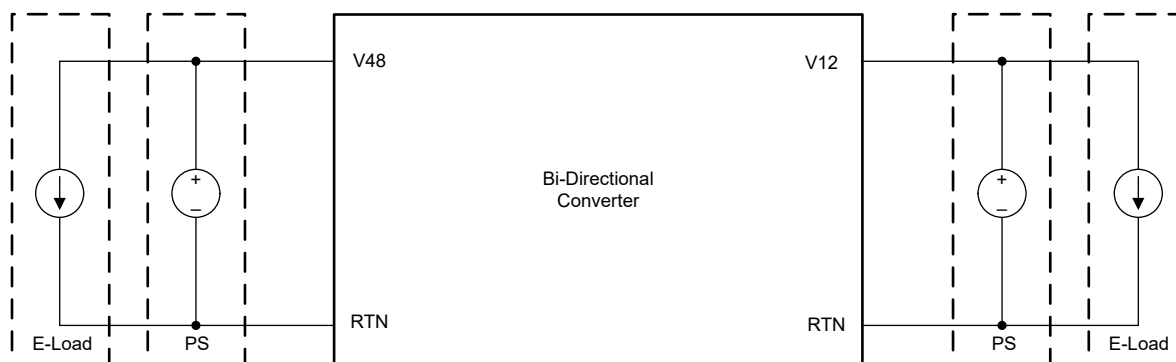

Figure 7-32. Emulated Dual Battery System With Bench Power Supplies and E-Loads
The LM5171-Q1-based converter is designed to operate with two differential voltage rails like the 48V and 12V dual battery system, or a storage system having a battery on one end and the Super-Cap on the other end. When operating with bench power supplies, each supply must be capable of sourcing and sinking the maximum operating current. This may require to parallel an Electronic load (E-Load) with the bench power supply (PS) to emulate the batteries, as shown in Figure 7-32.